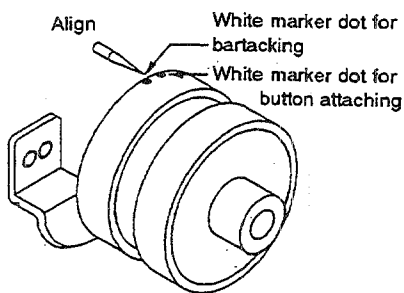

Fig. 33
<p>Adjust the position of the wiper by screw ①. Move the wiper by moving the work clamp foot lifting lever up or down. (For the air cylinder type machine, let the compressed air out of the sewing machine.) Perform this adjustment with the white marker dot engraved on the driving pulley aligned with the top end of the installing plate as shown in Fig. 33. Adjust the longitudinal position of the wiper so that an arc drawn by the wiper when it spreads the thread passes just under the needle.</p> <p>[ Caution ] Turn OFF the power when adjusting the wiper.</p>	<ul style="list-style-type: none"> <li>● If the clearance is smaller than 2.5 mm; The wiper will interfere with the needle point, resulting in needle breakage or scratches on the needle.</li> <li>● If the clearance is much larger than 2.5 mm; The needle clamp screw will hit the wiper when the needle bar goes down.</li> </ul>